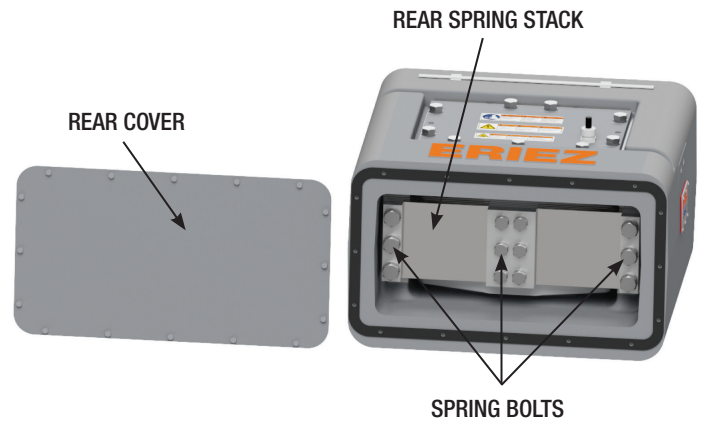

Figure 13
In changing tuning springs, put the clamp blocks (**Parts 12 and 13, on part list**) back on the same way they came off (**See Figure 13**) to ensure smooth clamping surfaces against the springs. All clamping bolts (**Parts 30-34 and 36-40, on part list**) should have a thread engagement of not less than one and one-half times the bolt diameter and should be drawn very tight (**See Bolt Torque Information in Table 3**). If "bottoming" of bolts should occur, washers of sufficient thickness to prevent "bottoming" should be used under the bolt heads.
2. Remove rear spring bolts, spring clamps, spacers and springs. **(See Figure 13)**